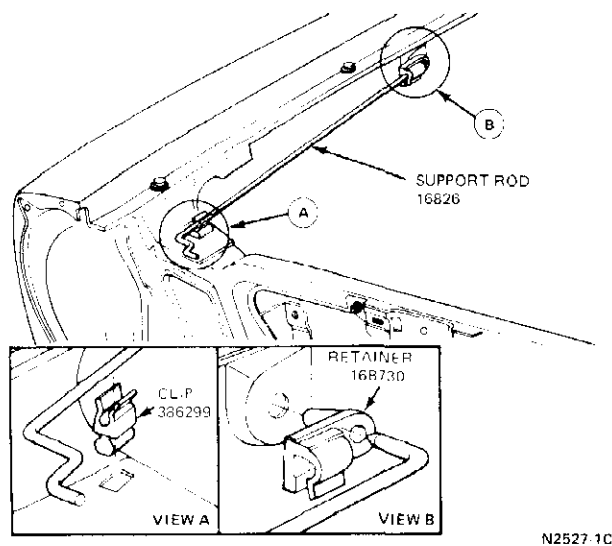

FIG. 15 Hood Support Rod-Mustang II—Others Similar
3. Unsnap the hood support rod retainer from the support rod and pull the rod out of the hole in the retainer (Fig. 15).
2. Insert the end of the support rod into the retainer hole, rotate retainer and snap the locking finger over the support rod (Fig. 15).